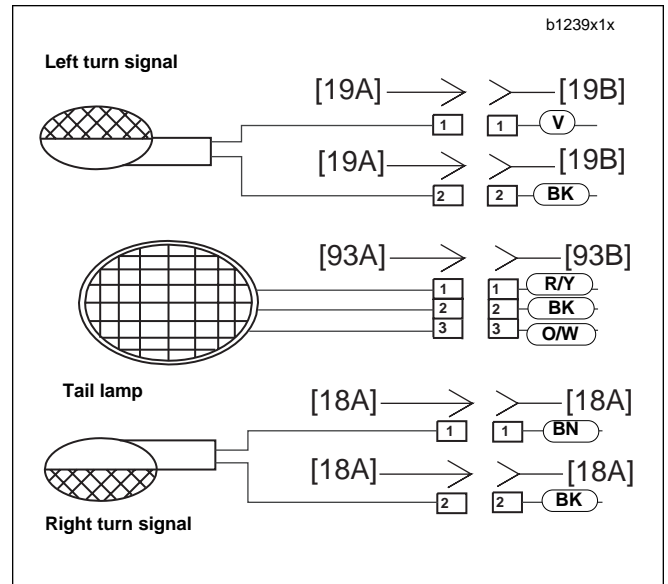

Figure 7-55. Rear Turn Signal Connections
3. See Figure 7-55. Separate left turn signal connector [18] and right turn signal connector [19].